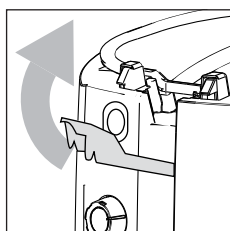

fig. 8
2. Open the inspection door as shown in (fig. 8).